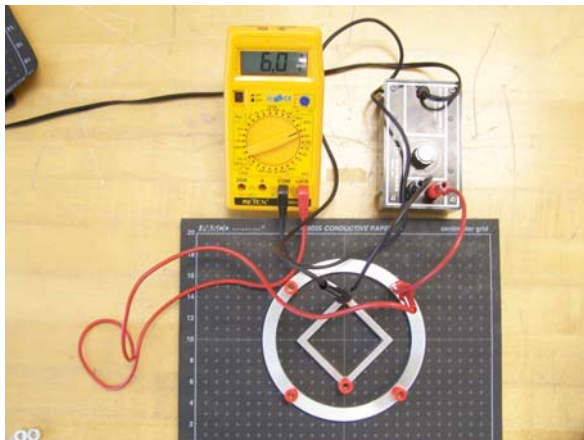

Figure 17-3 Concentric Conductors
9. Attach the negative lead from the power supply and the DMM to a conductive thumbtack placed on the inner square. Attach the positive lead to the outer circle. See Figure 17-3